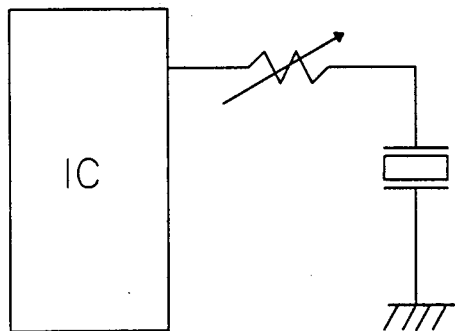
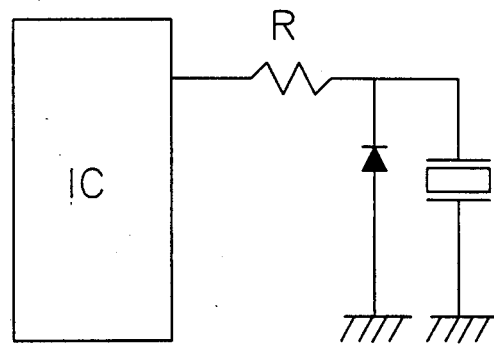

Fig.1
Fig.2
- 7.5 The resistor should be used as shown in Fig.1. A suitable resistance value should be chosen, preferably 1K-ohm to 2K-ohm. instead of this measure, a diode may also be applied as shown in Fig.2